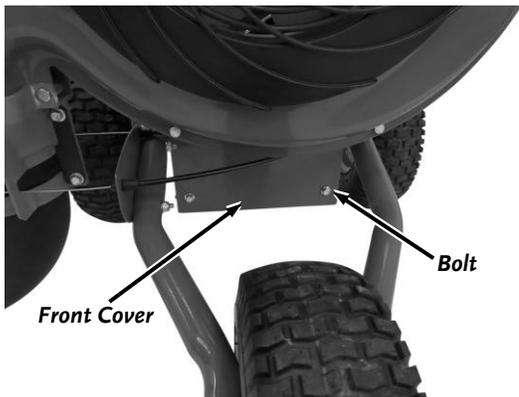

Figure 15
2. Remove the two Bolts that secure the Front Cover using a 3/8" Wrench and remove the Cover (**Figure 15**).
6. Install the Front Cover with the top lip facing forward (**Figure 15**).